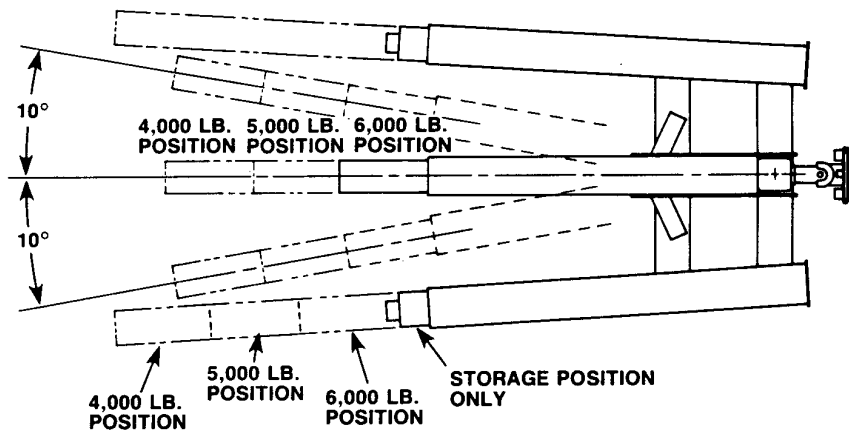

FIGURE 11
The crane has three load-bearing positions and one storage position. In addition to the load-bearing positions, the crane boom can be pivoted approximately 10° to either side of the center of the base. See Figure 11.
- The legs of the crane must be extended beyond the end of the boom **BEFORE** a load is placed on the crane. See Figure 11.